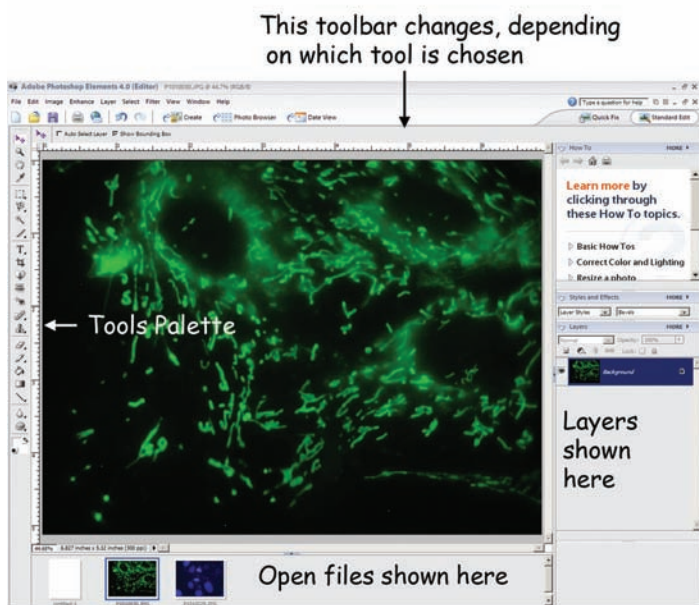
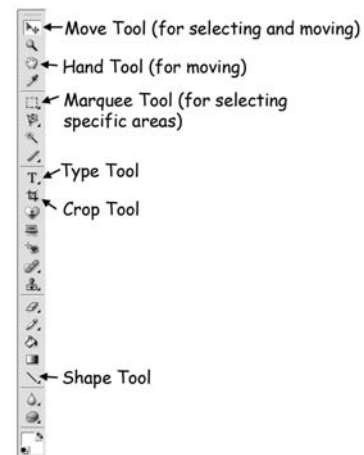

Figure 1, top. Open window of Photoshop Elements 4.0
Figure 2, left. The tools palette.
Figure 1 shows an open window of Photoshop Elements, showing the basic layout. Figure 2 shows at higher magnification of the tools palette, with some of the more commonly used tools indicated.
7. Referring to Figures 2 and 4, use the following procedure to add arrows to point out features in the image. Draw a line using the Line Tool in the tools palette. If the Line Tool isn't showing, click on the Shape Tool. A shape tool bar now becomes visible in the upper left of the screen; select the line. (Alternatively, you can right click on the Shape Tool and select the Line). To add arrowheads to the line, before you draw it, click the small arrow at the left side of the shape tool bar at the top of the screen to find a pull-down menu labeled “Geometry Options.” Choose the arrowhead settings you would like to use. To change the thickness of the line, change the “Weight” of the line. Remember that to delete or change an item, you must select the layer it is in and then you can act on it.